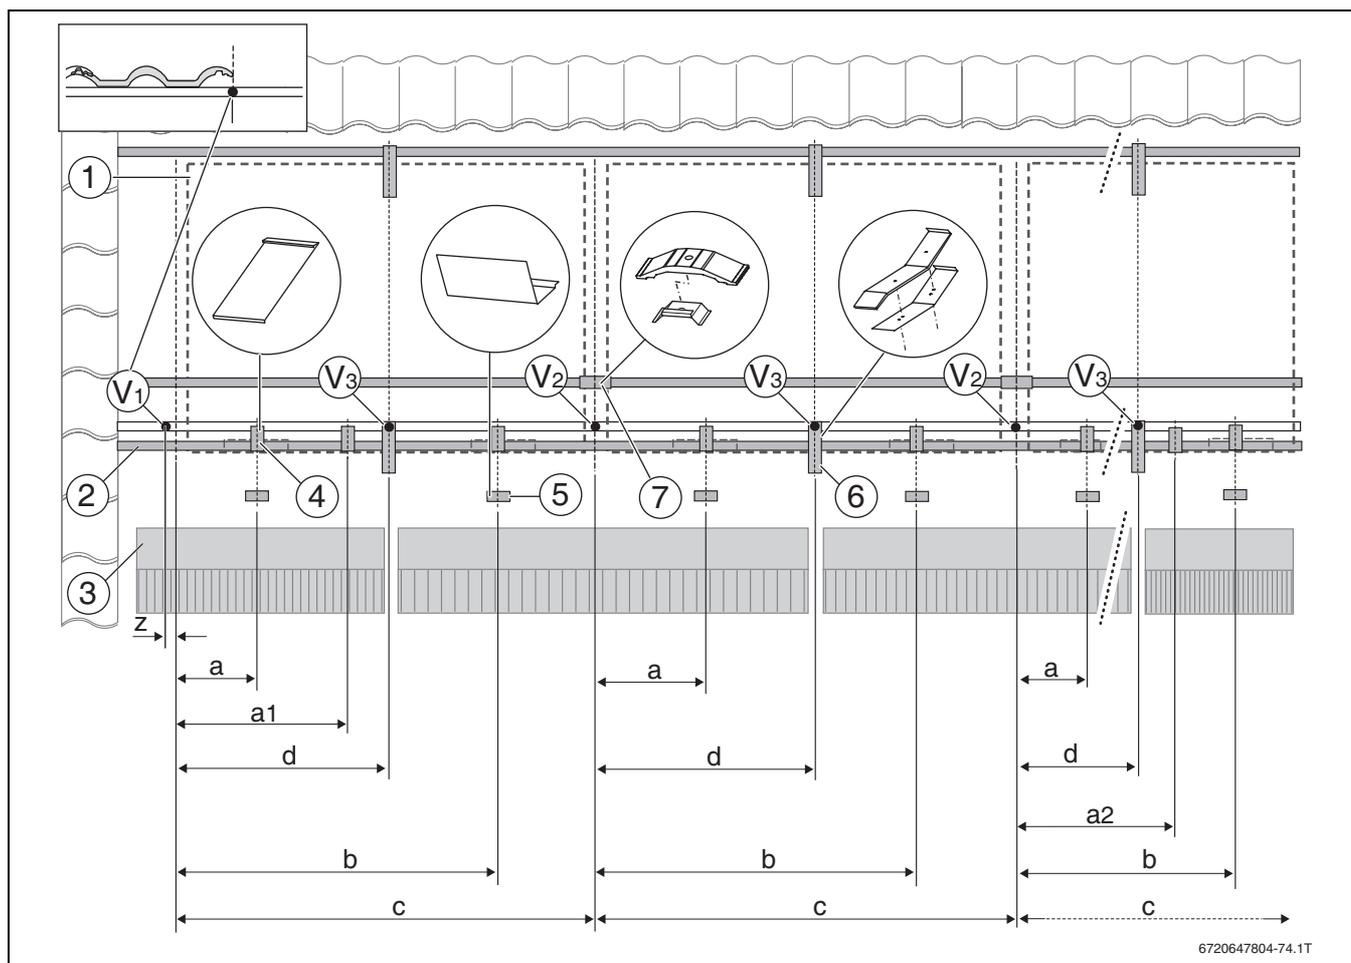

Fig. 41 Installation dimensions for landscape collectors
- **Landscape collectors** dimensions a, a1, b, c, d (→ Fig. 41 and table 22, page 32)